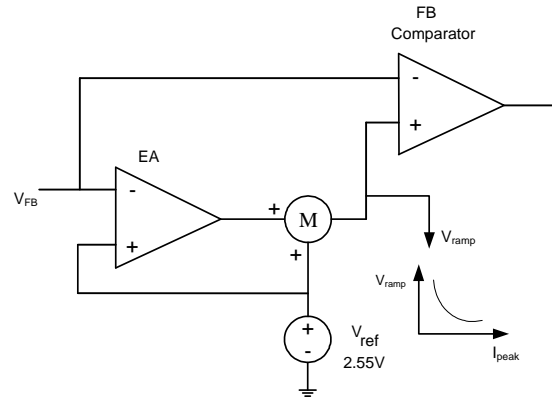

Figure 4: EA and Ramp Compensation
The MPQ4590 has an internal error amplifier (EA) compensation loop that samples the feedback voltage 6 μ s after the MOSFET turns off and regulates the output based on the 2.55V reference voltage (see Figure 4).
An internal ramp compensation circuit is used to improve the load regulation. An exponential voltage signal is added to pull down the reference voltage of the feedback comparator (see Figure 4). The ramp compensation is a function of the load conditions: the compensation is about 1mV/ μ s under full-load conditions, and the compensation increases exponentially as the peak current decreases.